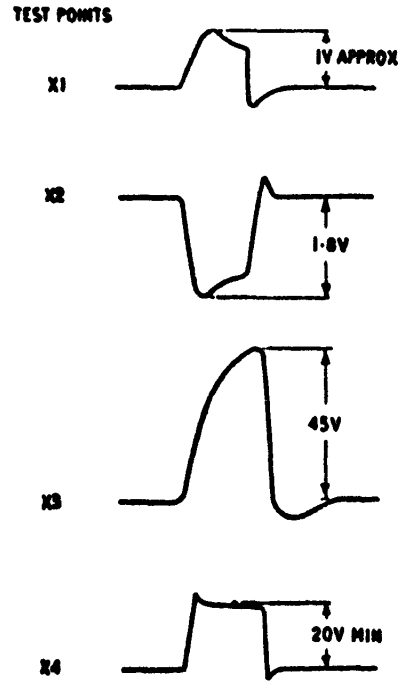

Fig. 5. Waveforms
15. Waveforms can be monitored at four points within the unit (*viz.* X1 to X4 in fig. 6) which are brought out to the monitoring sockets on the front panel. Typical waveforms are given in fig. 5. The figures of magnitude quoted against the waveforms are intended only as a guide, the criteria being the satisfactory operation of the unit as a whole.